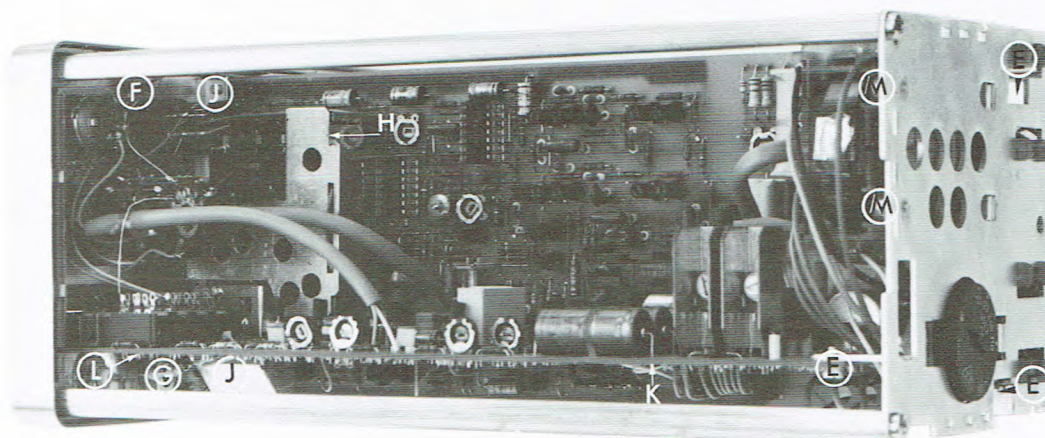

Fig. 2.7. Dismantling
- . 3 screws E (Fig. 2.7.) holding p.c. boards to rear plate.
- . 1 screw F (Fig. 2.7.) behind front panel (top).
- . 1 nut G (Fig. 2.7.) behind front panel (bottom).
- unhook attenuator screening cover plate by pressing in lip (H) on top edge (see Fig. 2.7.).
- unscrew two screws J (Fig. 2.7.).
- unhook angle bracket K located halfway along edge of the printed-circuit board (Fig. 2.7.).
- unhook angle bracket K located halfway along edge of the p.c. board (Fig. 2.7.).
- to remove horizontal board: remove one screw L securing it to the front panel (Fig. 2.7.).
- to remove vertical board: remove appropriate attenuator connections and two screws J securing it to the front panel (Fig. 2.7.).
- unscrew two mounting screws M (Fig. 2.7.).